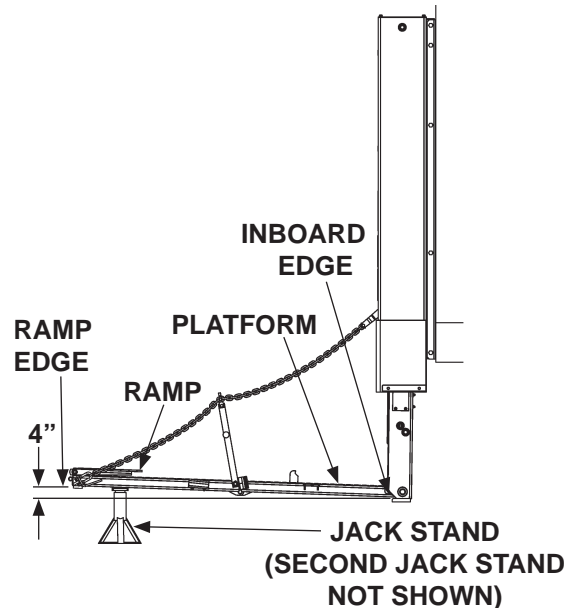

FIG. 10-2
22. Use control box to raise the platform (UP) slightly and remove 2 jack stands near the inboard edge (FIG. 10-2).
23. Use control box to lower (DOWN) platform on jack stands (FIG. 10-2) so inboard edge is 4" below ramp edge.